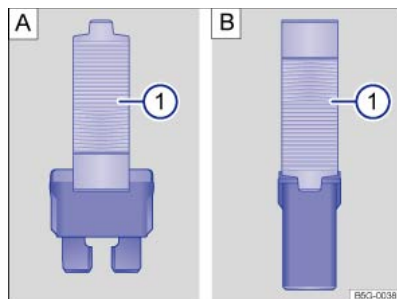

Fig. 214 Remove or insert fuse with plastic pliers: : flat blade fuse, : JCASE® fuse.
- If applicable, take the plastic pliers ⇒ *Fig. 214 ①* out of the fuse box cover.
- Push the plastic pliers suitable to the fuse design ⇒ *Fig. 214 A ①* or ⇒ *Fig. 214 B ①* onto the fuse from the side.
- If the fuse has blown, replace it with a new fuse of the *same* amp rating (same colour and same markings) and *same* size ⇒ *①*.